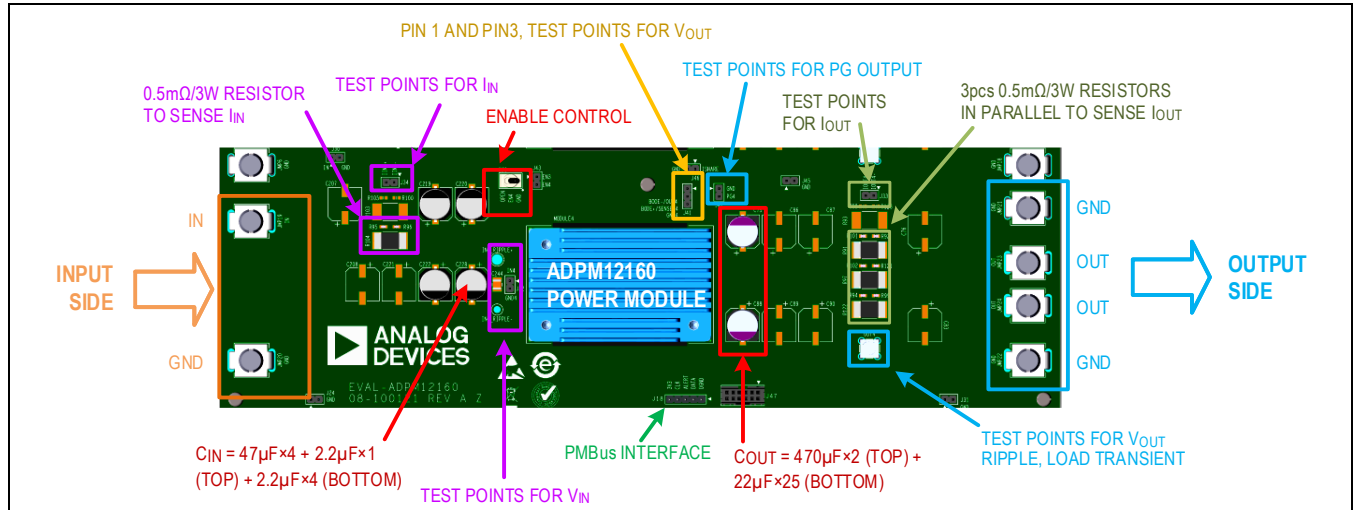

Figure 1. EVAL-ADPM12160 Board Configurations (One Module Is Shown)
11. If needed, connect the digital voltmeters and oscilloscope probes as shown in Figure 1.
There are four sockets of quarter-brick modules on the EVAL-ADPM12160 EV board, and Analog Devices offers an option with one module installed, or an option with two, three, or four modules installed in parallel operation. With a different quantity of installed modules, the EV board configurations are a bit different, but each module configuration is the same. See Figure 1 for the hardware configurations.